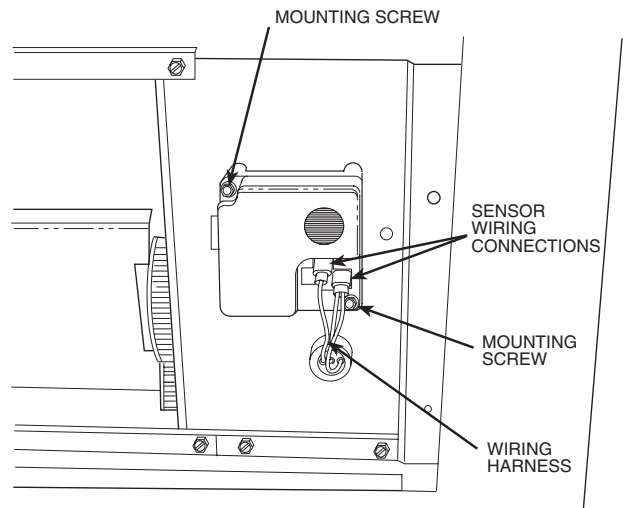

Fig. 22 — Outdoor-Air Sensor Details
2. Disconnect the wiring from the installed outdoor air temperature sensor. See Fig. 22.